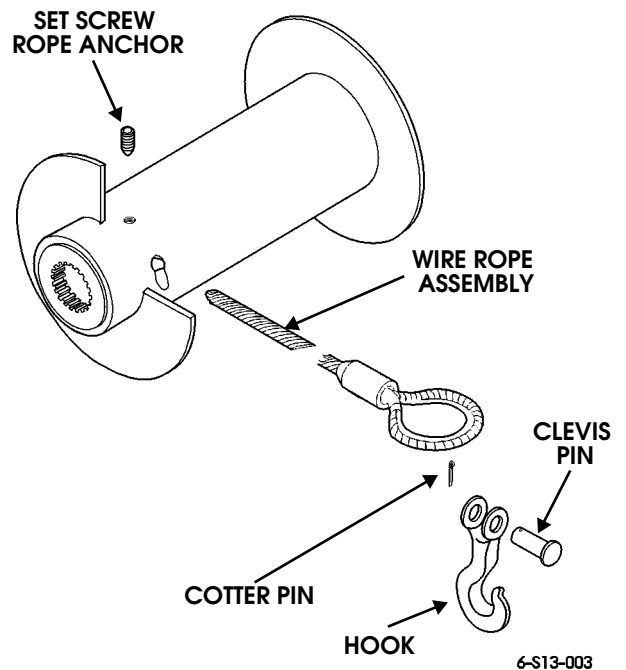

Figure 13-5: Winch Cable
2. Remove set screw and winch cable from drum assembly (Figure 13-5).